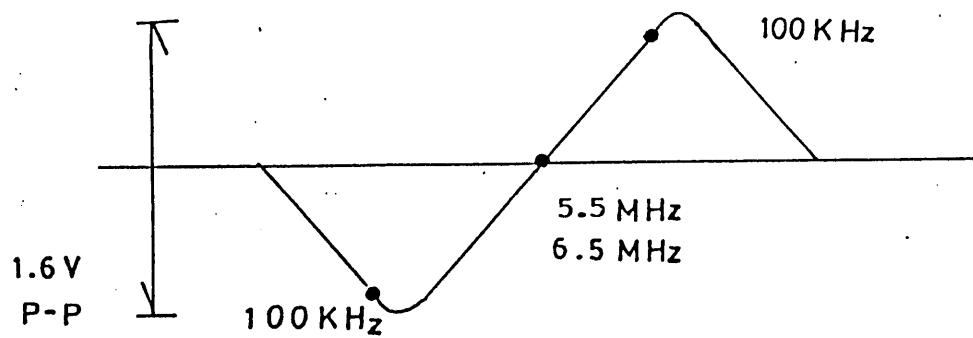

Fig. 7
- (iv) Adjust T105 to obtain the waveform as Fig. 7.